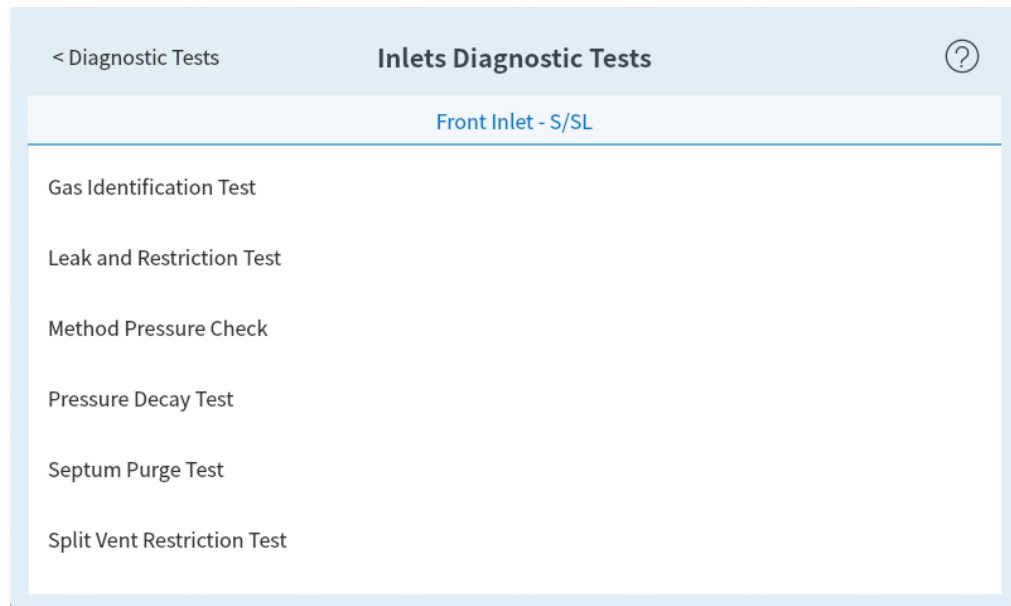

Figure 38. Inlet Diagnostic Tests page
Select a link to access the desired reports or tests. See Figure 38.
3. Select **Inlets**, **Detectors**, or another link, as desired. The corresponding page will appear. For example, selecting **Inlets** brings up the Inlet Diagnostic Tests page. See Figure 38.